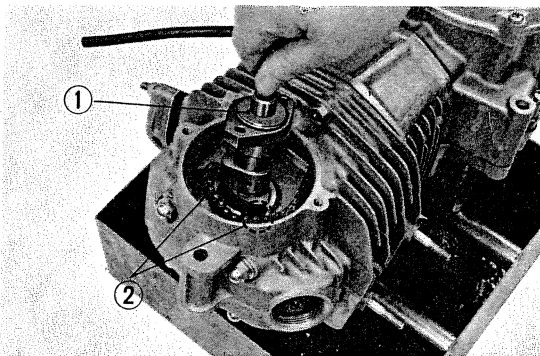

Fig. 45 Camshaft installation
- 8) Disassemble the cam chain from the cam sprocket and then reinstall the camshaft. (Fig. 45)